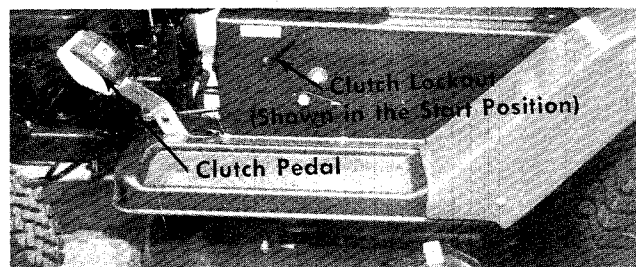

FIGURE 10. LEFT HAND CONTROLS
e. Clutch Pedal. The clutch pedal is used to disengage the drive mechanism. Depressing the clutch pedal at any time will reduce mower speed. If depressed all the way, it will stop the mower. See figure 10.
Step 2. Place the clutch lockout in the START position. See figure 10.